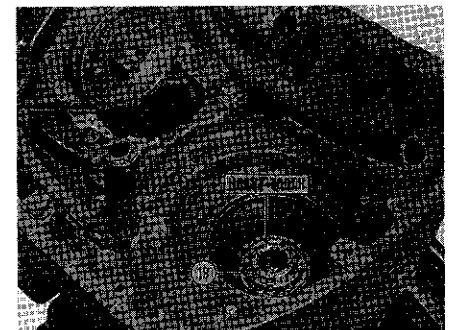

Fig. MH752—The spanner nut (19) should be tightened to 30-50 in.-lbs. of torque.
3. ADJUST PEDESTAL VERTICAL SPINDLE. Tricycle models are equipped with a spanner type nut (19—Fig. MH752) which, in a limited way, controls the up and down play of the spindle. To gain access to the nut, it will be first necessary to remove the steering gear assembly using paragraph 34 as a general guide. The nut should be tightened to 30-50 In.-Lbs. of torque. After adjustment is complete bend a tab of the lock washer (18—Fig. MH753) into each slot in the nut.
Before reinstalling the gear unit, tighten the spanner nut (19—Fig. MH752) to 30-50 In.-Lbs. of torque and bend a tab of the lock washer into each of the slots in the nut.